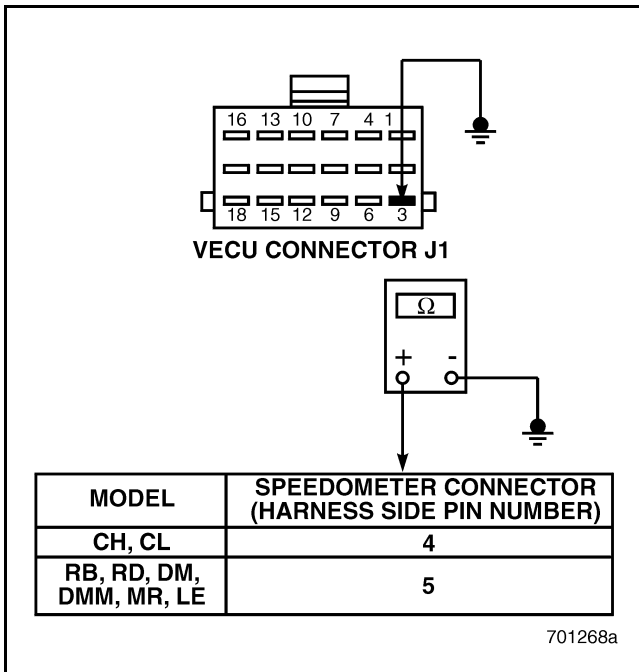

Figure 520
4. Connect a jumper between VECU connector J1 pin 3 and a good ground (see Figure 520).
5. Check for continuity between the pin shown in Figure 520 and a good ground.